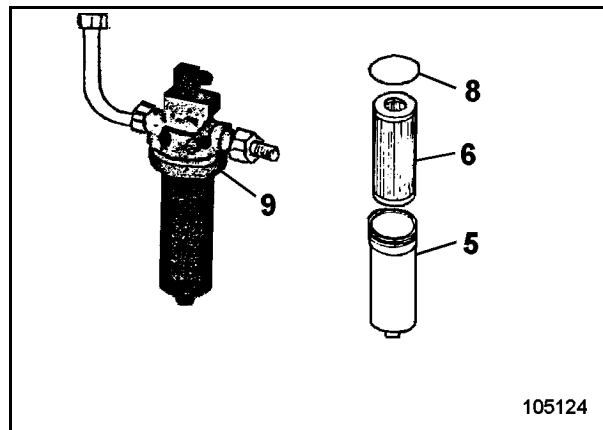

Fig. 3-85:
Each of the control circuits is equipped with a high-pressure filter (Fig. 3-85:)
- Unscrew filter housing (5, Fig. 3-85:).
- Withdraw filter element (6) from filter housing (5).
- Clean filter housing (5) and the sealing face at the filter head (9) with white spirit or paraffin oil.
- Insert new filter element into filter housing (5) and refit to the filter head with new, lightly oiled sealing ring (8).